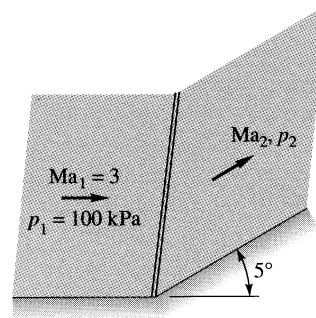

Fig. P9.122
**9.122** Supersonic air takes a  $5^\circ$  compression turn, as in Fig. P9.122. Compute the downstream pressure and Mach number and wave angle, and compare with small-disturbance theory.